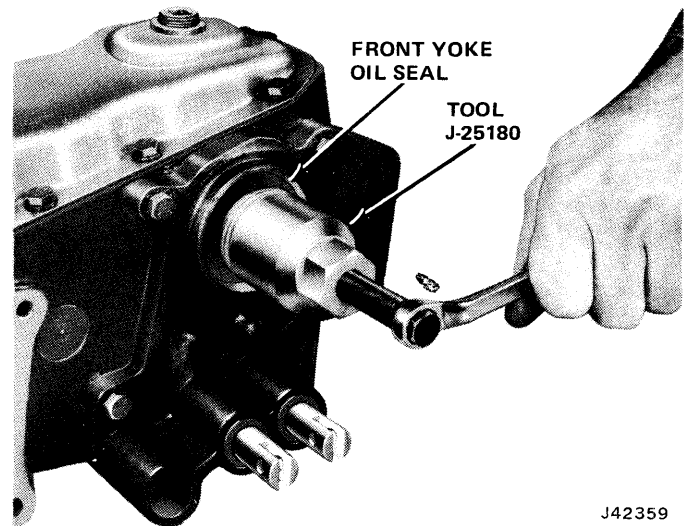

Fig. 8-10 Front Yoke Oil Seal Removal
(6) Remove oil seal using Tool J-25180 (fig. 8-10).
(7) Install replacement seal using Tool J-25160.
(8) Install yoke, washer, and nut. Tighten nut to 240 foot-pounds torque. Use Tool J-8614-01 to hold yoke while tightening nut.
(5) Remove seal from bearing cap bore using Tool J-25180 (fig. 8-10).
(6) Remove bearing cap assembly from vise, and using rear face of cap as support, drive output shaft from bearing cap using brass drift and hammer.
(7) Lift tapered bearing and drive bearing cup out of bearing cap rear bore.
(8) Drive front bearing cup from bearing cap front bore.
(9) Remove speedometer drive gear and shims from shaft.
(9) Remove front oil seal using Tool J-25180 (fig. 8-10).
(10) Remove cover plate attaching screws and remove cover. Remove front output shaft rear bearing.